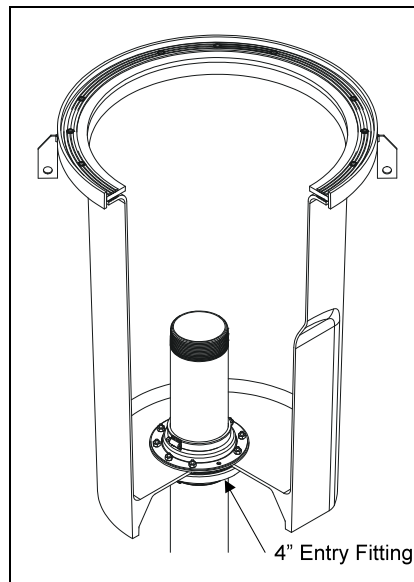

Figure 2
4. Slide the Fiberglass basin over the riser pipe, make sure the band clamps on the entry fitting are loose to allow for adjusting the basin over the riser. (See Figure 2.)